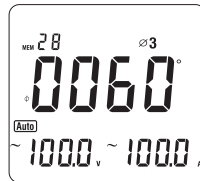

Figure 25
- Press **SELECT** again to choose the third phase $\angle 3$, see figure 25.